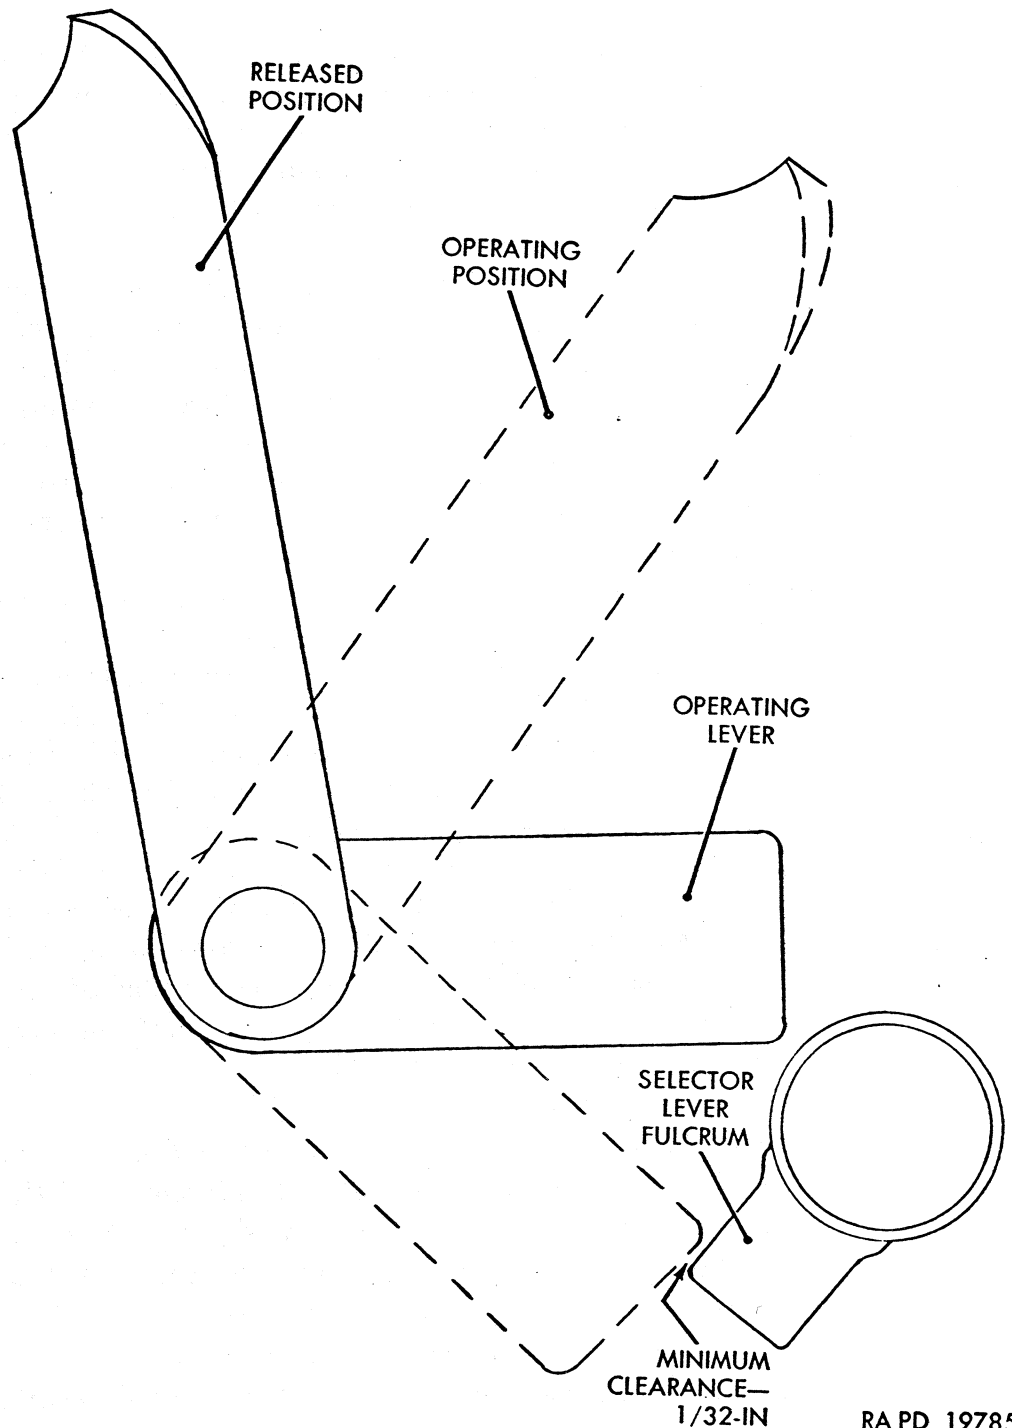

Figure 148. Starter operating lever clearance.
- (2) Remove floor board center section. With rod disconnected from starter shift lever (M) adjust rod length to provide a slight clearance between bottom of operating lever-to-pickup-lever rod (E) and cut in pickup lever (G) when holes in yoke and shift lever are alined. Clearance cannot be seen, but must be determined by feel.
- (3) Connect rod adjustable yoke (L) to starter shift lever (M). While observing action of shift lever, have an assistant pull hand control lever (A) rearward as far as possible. If starter operates and switch bracket is not forced forward, adjustment is satisfactory. If starter does not operate, or if switch bracket is forced forward, lengthen or shorten rod as necessary to obtain condition described in (1) above. Install floor board center section.
- (4) With linkage adjusted, make sure starter hand control lever (A) returns to released (forward) position without binding. If binding is evident, it is caused by the starter control operating lever (C) binding on the selector lever fulcrum (D). Remove shift control tower cover plate. With transmission control lever in neutral and with ignition off, pull starter hand control lever to engaged position and check the clearance between operating lever and selector lever fulcrum (fig. 148). A minimum clearance of one thirty-second of an inch is necessary to prevent binding. File end of operating lever if necessary to obtain this clearance. Lubricate each pivot point in control linkage except cross-shaft bushings; then install control tower cover plate.